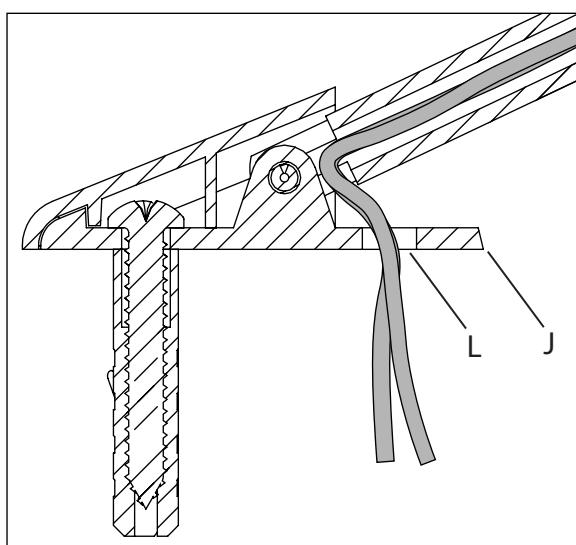

Fig. 5
- Referencing layout from step 2, use the fixture (A) and mounting brackets (J) as a template to mark the three locations for the mounting screws (K). Mark one location designated for the input wire hole (L). If applicable, mark the location(s) designated for the output wire hole(s) (L). Drill mounting and wire holes in the wall at marked locations.
- Route remaining cable out of the arm and through the wire hole (L) on the mounting bracket (J) (Fig. 5).